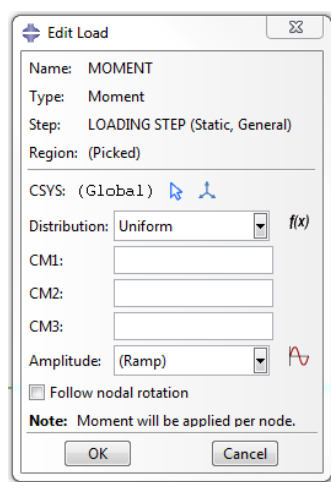

**Figure 40a.** Create Load Dialog Box
- Double click **Loads(2)** in the model tree and the **Create Load** dialog box will immediately appear (Figure 40a). Create a **Name** for the load called **MOMENT**, and under the **Step** drop down menu make sure to choose **LOADING STEP**. Under the **Category** option choose **Mechanical**, and